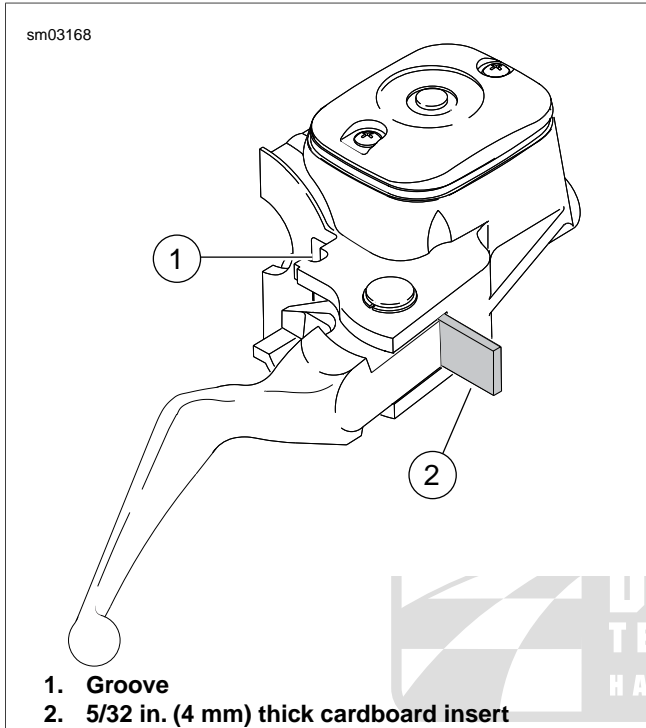

Figure 2-64. Cardboard Insert
3. See Figure 2-64. Place the cardboard insert between the brake lever and lever bracket.